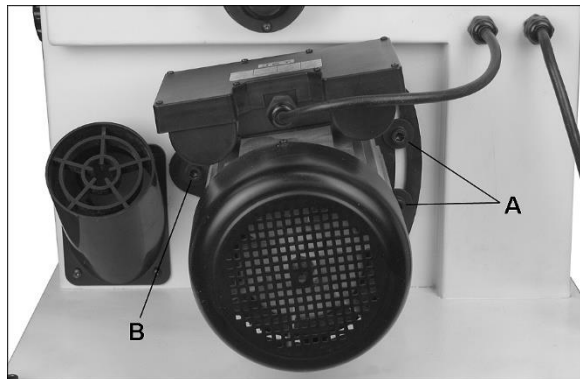

Figure 7-4
3. Loosen motor plate screws (A, Figure 7-4). If needed, slightly loosen pivot screw (B). Lift motor upward to remove tension on belt, and tighten screws (A) to hold motor in raised position.